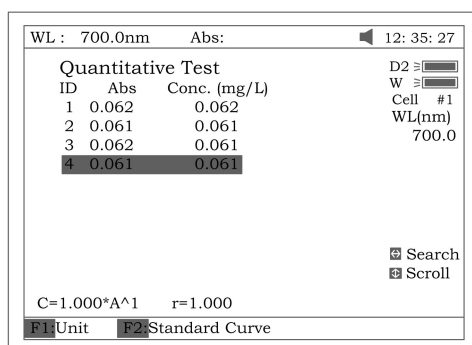

Fig 38
4.2 Pull the sample cuvette into Main Light Path, press the key **【START】**, the results will be displayed on the screen (Fig 38).